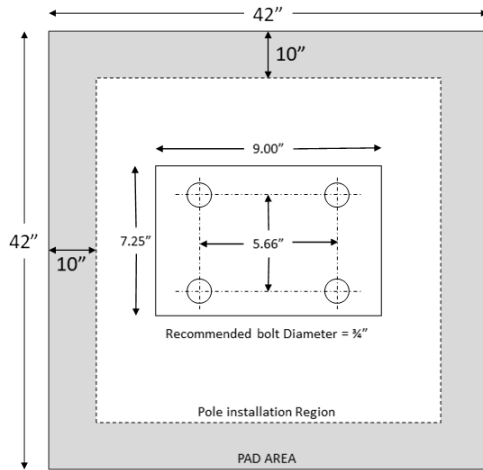

Figure 1 - Anchor Positioning
- **Mounting bolts must be spaced according to the dimensions shown in Figure 1. Use of a mounting template is recommended. Contact Sales for pre-delivery of a cardboard template or print one from page 3 of this document.**
- 3) For a mounting-hole pattern, a cardboard mounting template is included with the Tower (Guardian P/N: P007745). See Figure 1 for positioning of the anchors and Figure 2 for the ideal height for the nuts/washer on the anchors. If the Tower with the mounting template has not been received, a request can be sent to Guardian to provide a template. Alternatively, if a mounting template is not available the illustration on page 3 can be printed on 11" x 17" paper, glued or taped to a sheet of cardboard and the holes cut out.